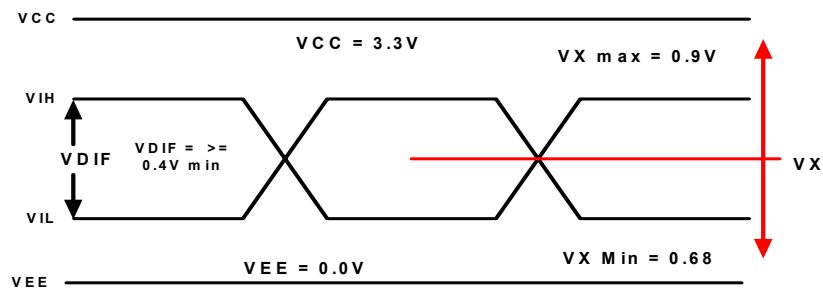

Figure 2. HSTL Differential Input Waveform Definitions
9. V_X(AC) is the crosspoint of the differential HSTL input signal. Normal AC operation is obtained when the crosspoint is within the V_X(AC) range and the input swing lies within the V_{DIF}(AC) specification. Violation of V_X(AC) or V_{DIF}(AC) impacts the device propagation delay, device and part-to-part skew. Refer to Fig. 2.